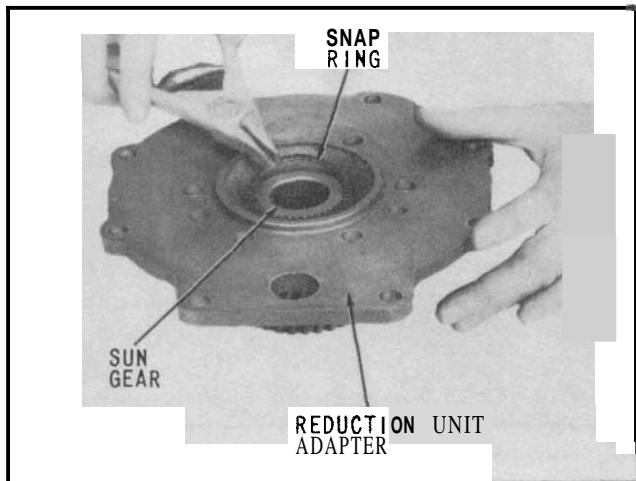

Fig. 18 Installing Sun Gear Snap Ring
10. Support reduction unit adapter and sun gear on rear face of sun gear and install snap ring firmly into its groove as shown in (Fig. 18).